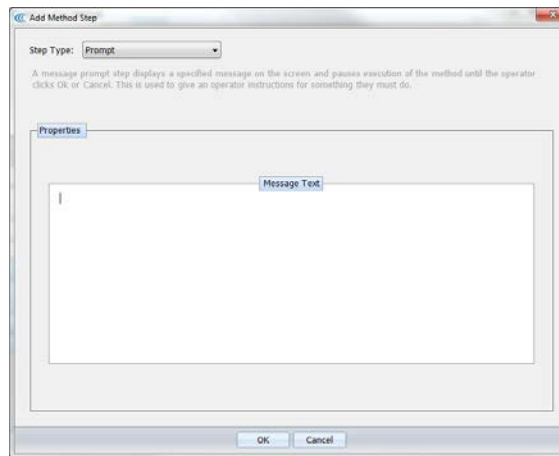

Figure 4.5 Add a Prompt Step
- 5.1.3** Choosing a *Prompt* step displays a specified message on the screen and pauses execution of the method until the operator clicks OK or Cancel. See Figure 4.5.